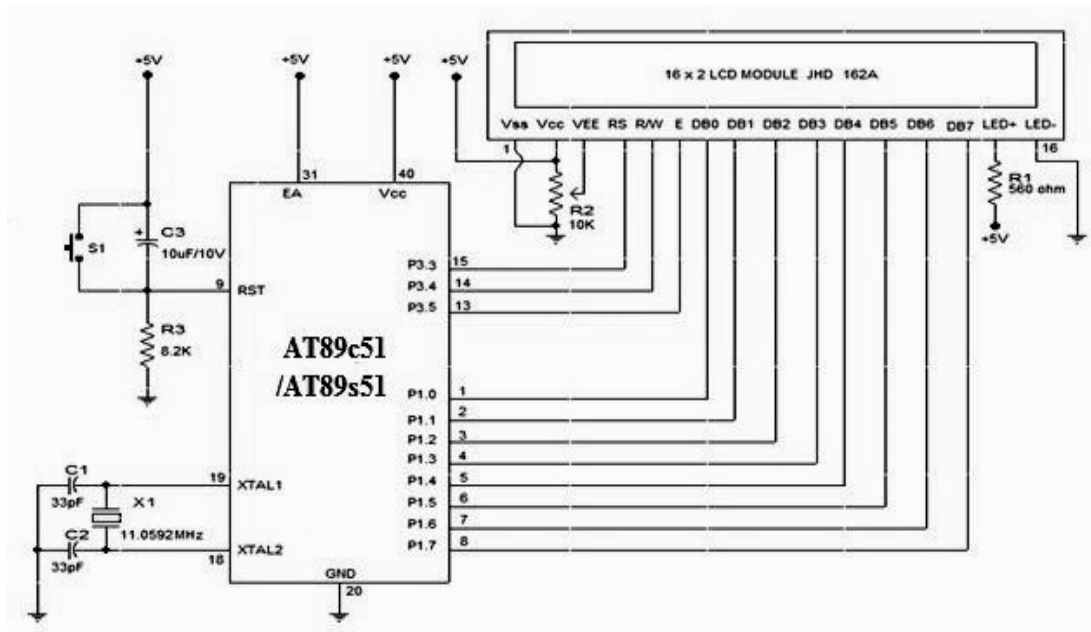

Fig 29.2 8051 connection to 16x2 LCD display
7. Interface LCD display to microcontroller as per circuit diagram shown in Fig 29.2